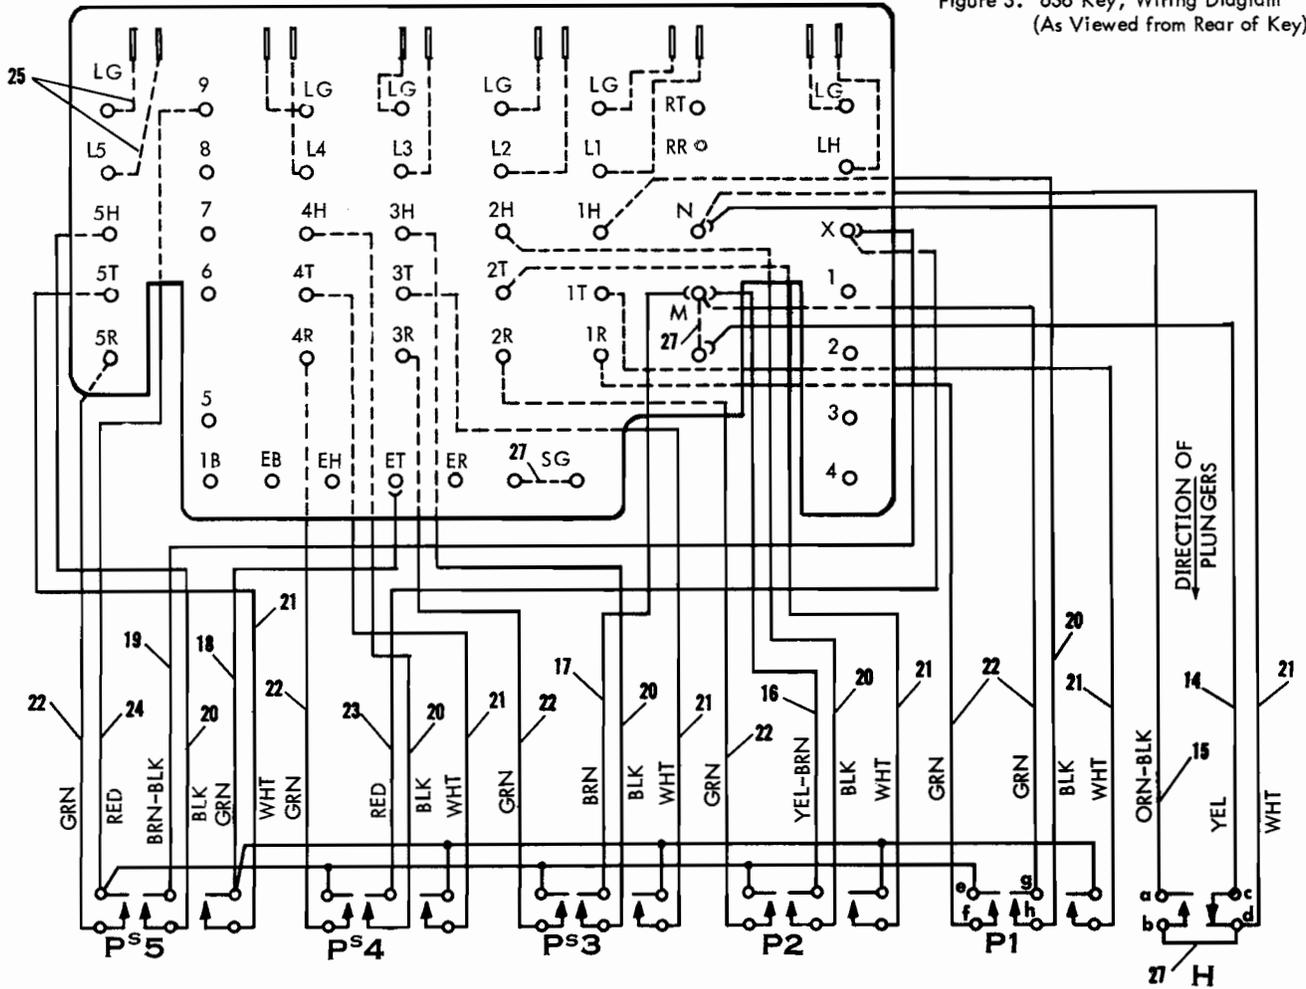

Figure 3. 636 Key, Wiring Diagram
5.2 CONTACT SEQUENCE (Figure 3)